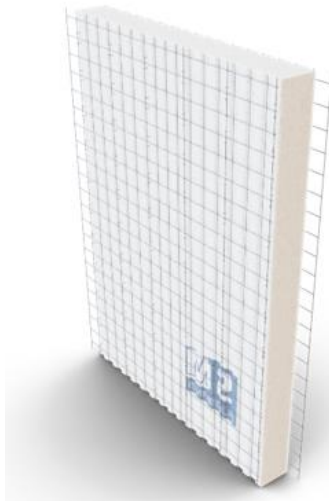

Fig 2.
- The single panel which consists of an EPS rigid core with prefabricated, galvanized, high tensile steel wire mesh reinforcement (600Mpa). Following erection on site it is sprayed both sides in shotcrete (concrete) creating a structural building. (See Fig 2.)